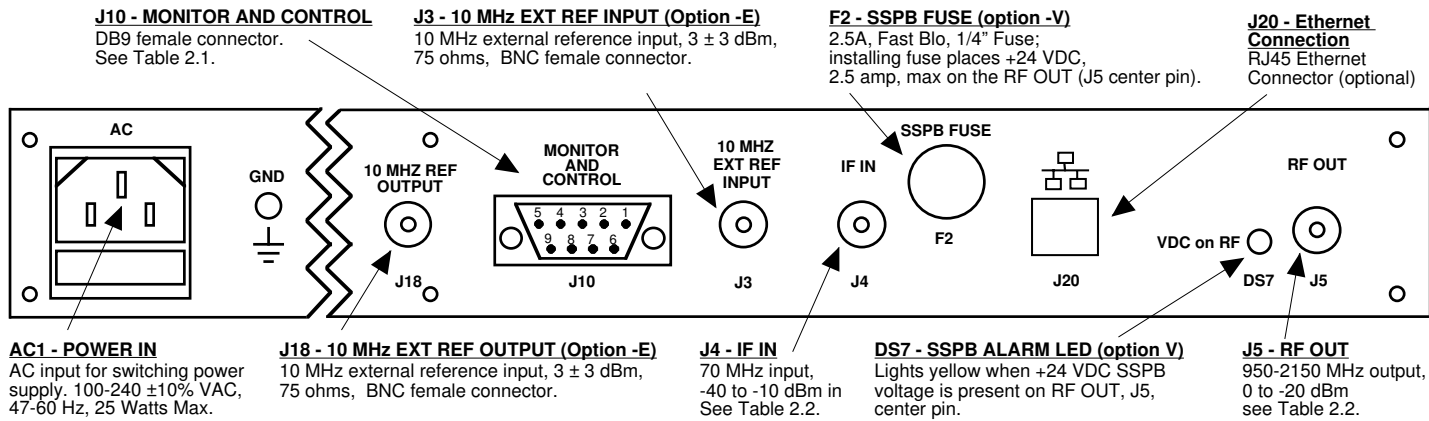

FIGURE 2.1 2015-02 Rear Panel I/O's
Figure 2.1 shows the input and output connectors on the rear panel.
1. Connect a -40 dBm to -10 dBm signal to IF In, J4 (Figure 2.1)
8. Option -V only - To insert SSPB +24 VDC on the RF center pin install 2.5A fast blo fuse in F2 and check that DS7 lights yellow (Figure 2.1)